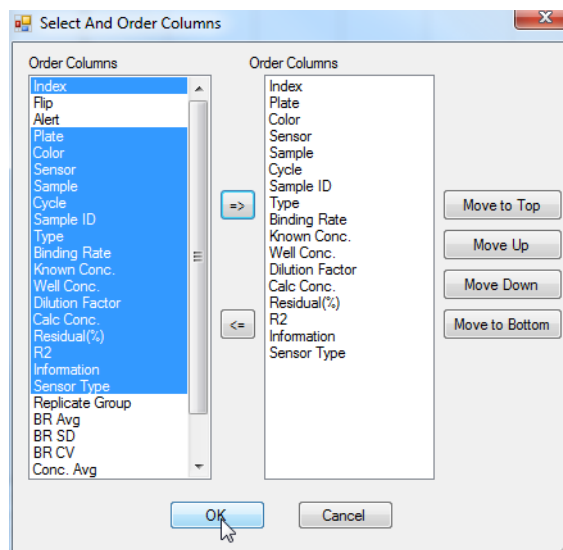

Figure 4-42: Select And Order Columns Dialog Box
2. The Select And Order Columns dialog box displays (Figure 4-42). Select and order the columns, then click **OK**.